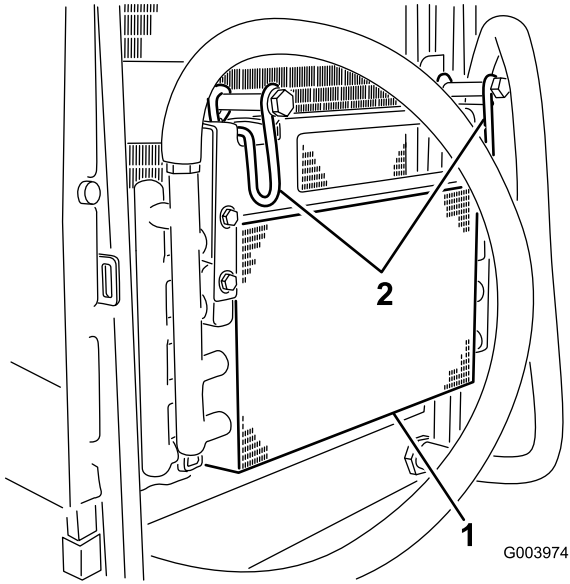

**Figure 68**
3. Unlatch the clamp and pivot open the rear screen (Figure 68).